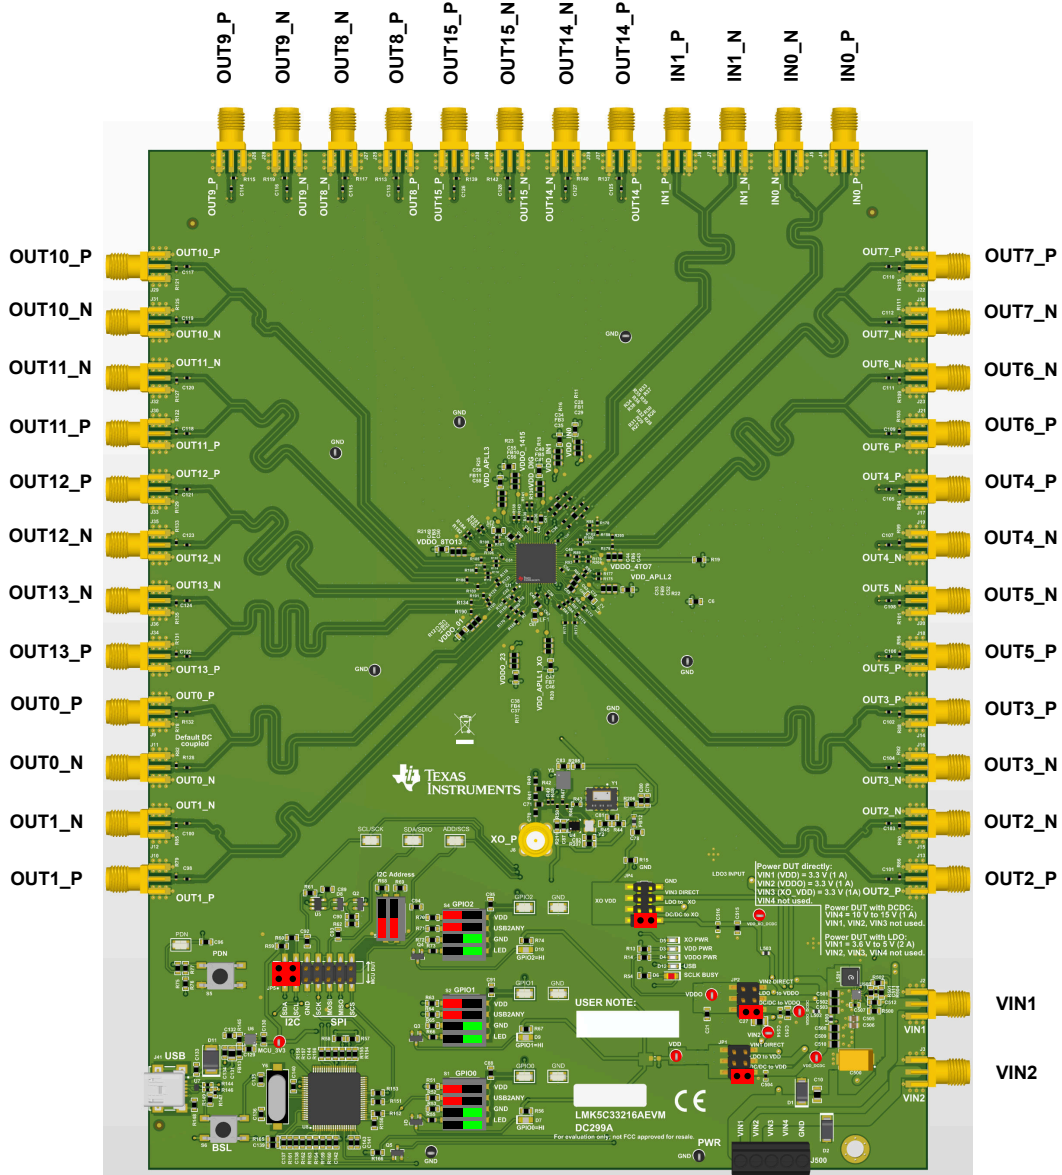

Figure 1-1. LMK5C33216AEVM Default Setting of Jumpers and DIP Switches
Figure 1-1 shows the jumper position with red markings. Figure 1-1 shows the DIP switch positions in either green boxes (for ON) or red boxes (for OFF) in the appropriate location.
1. Verify the EVM default jumper and DIP switch settings shown in Figure 1-1.